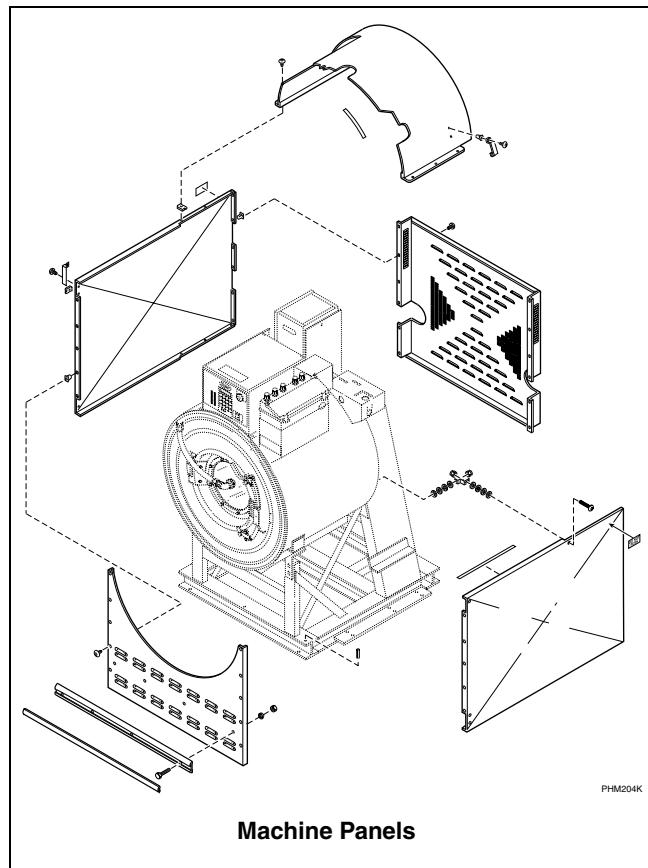

Figure 28
- c. Remove the front, back, top and side panels. Refer to *Figure 28*.